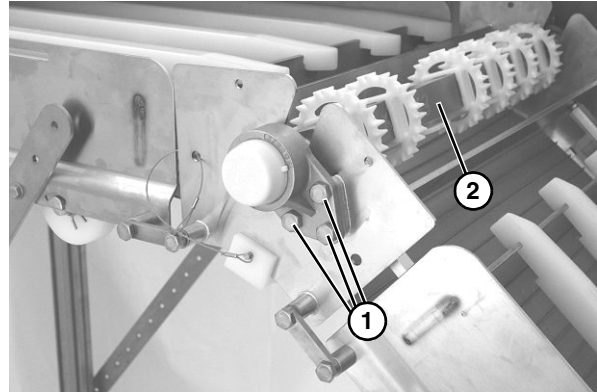

Figure 79
1. Remove three bolts (Figure 79, item 1) on each side, and remove spindle assembly (Figure 79, item 2) from knuckle.